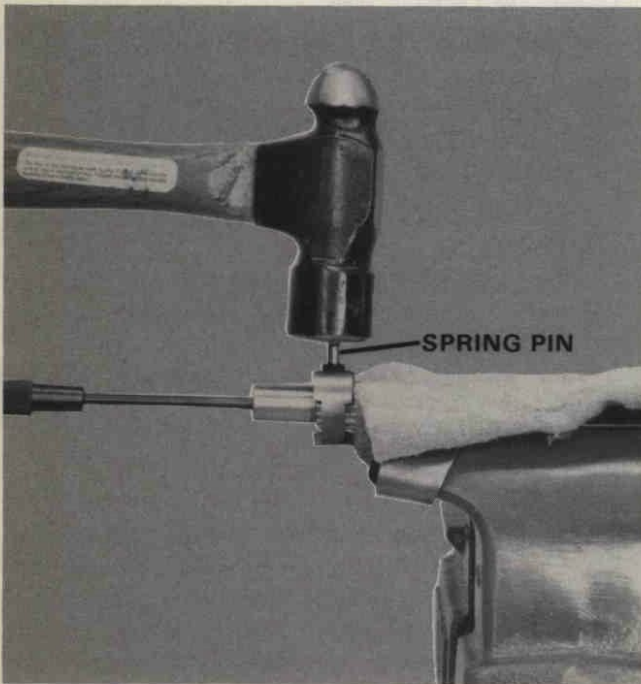

Figure 34. Installing Clutch.
- D. Compress clutch spring. Center clutch on splined part of shaft. Figure 34.
- E. Remove pin remover. Drive spring pin in until flush. Figure 34.